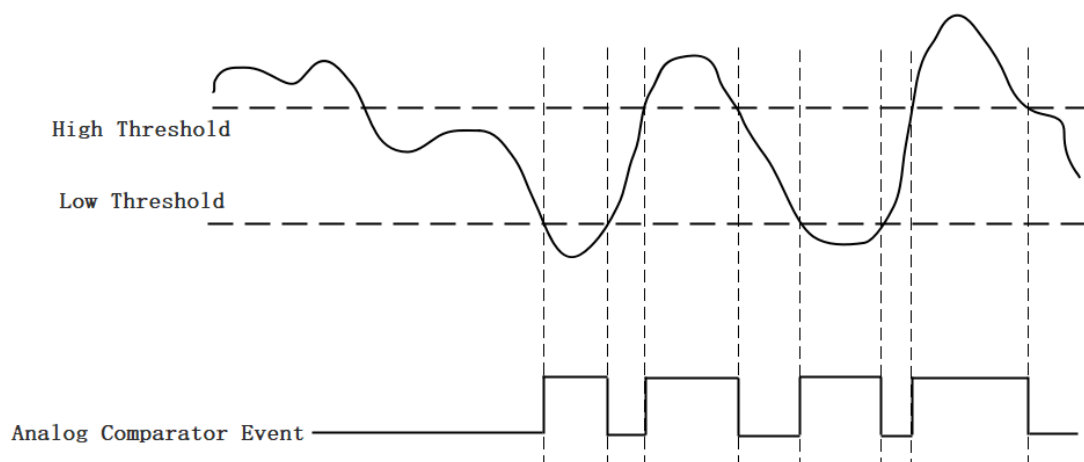

Figure 21 Leaving Window Trigger
*Leaving Window Trigger*: The window comparator output is high when the signal leaves the window defined by the *Low Threshold* and *High Threshold*. The output will change to low when the signal enters the window as shown in Figure 21 Leaving Window Trigger.